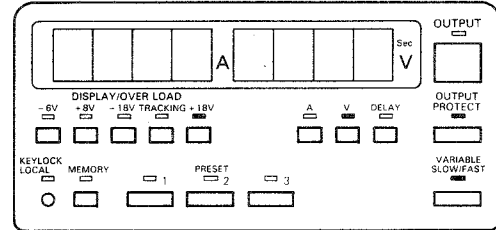

Fig. 8
- 1) Set the LEDs as shown in the Figure 8. (Make sure that the OUTPUT LED is not lit.)
- 3) Press the A KEY (6) and make sure that the A LED lights up.
- 5) Press the OUTPUT KEY (17) to obtain the output value entered from the positive (+) output terminal.
- The output is obtained from terminal (26) for the PWR18-1.8Q and from terminal (28) for the PWR18-1T.